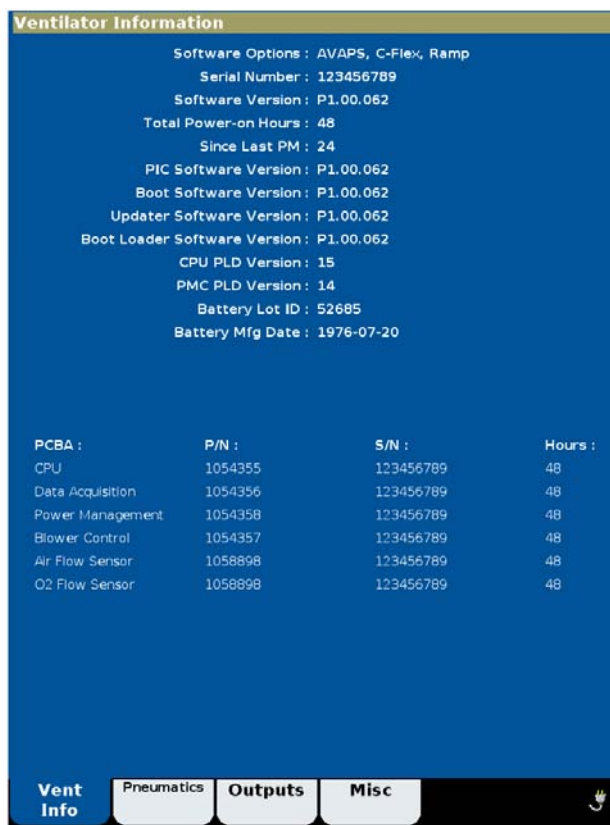

Figure 8-1: Ventilator Information Screen
2. Touch **Service** to display the Ventilator Information screen (Figure 8-1), and record the following information on the Electrical Safety (section 8.8, *Electrical Safety Data Form*) or Performance Verification Data Form (section 8.9, *Performance Verification Data Form*):